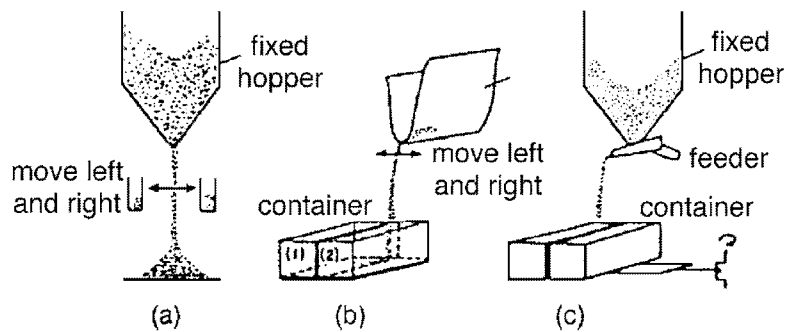

Figure 21: Flow Division Method
- Use the flow division method. (see Figure 21).